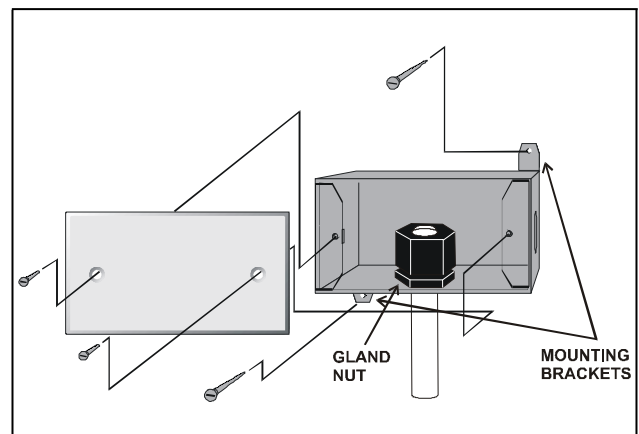

Figure 3-24 - Outdoor RH Sensor - Exploded View
1. Secure the rear side of the enclosure to the outside wall using the two mounting brackets, as shown in **Figure 3-24**. The tube holding the sensor element should point straight down.